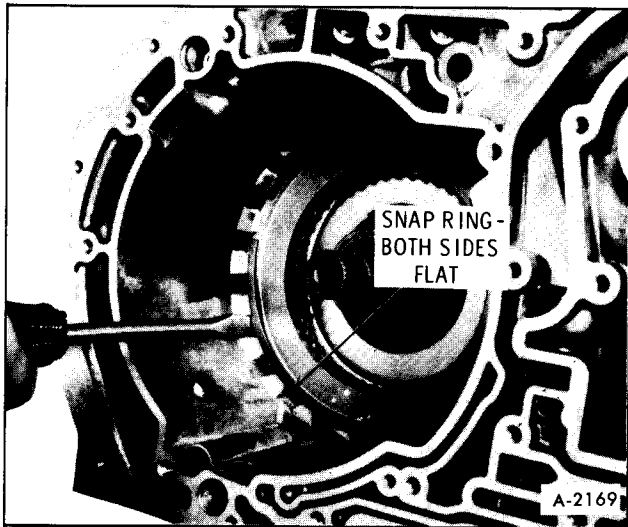

Figure 45—Intermediate Clutch Snap Ring
2. Remove intermediate clutch backing plate to case snap ring, Figure 45.